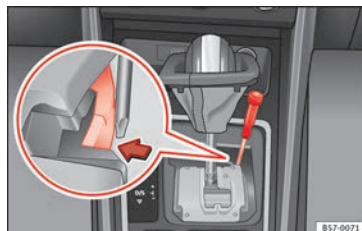

Fig. 54 Selector lever: manual release from position P.
- Using a screwdriver, press and hold the yellow unlocking tab sideways »» Fig. 54.
- Now press the interlock button on the selector lever (A) and move the selector lever to position N.